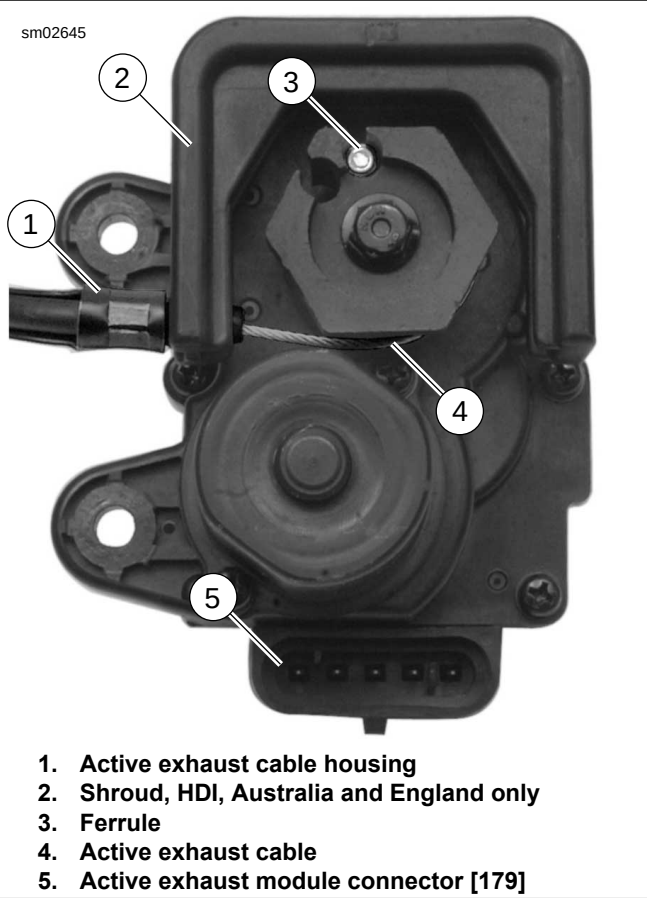
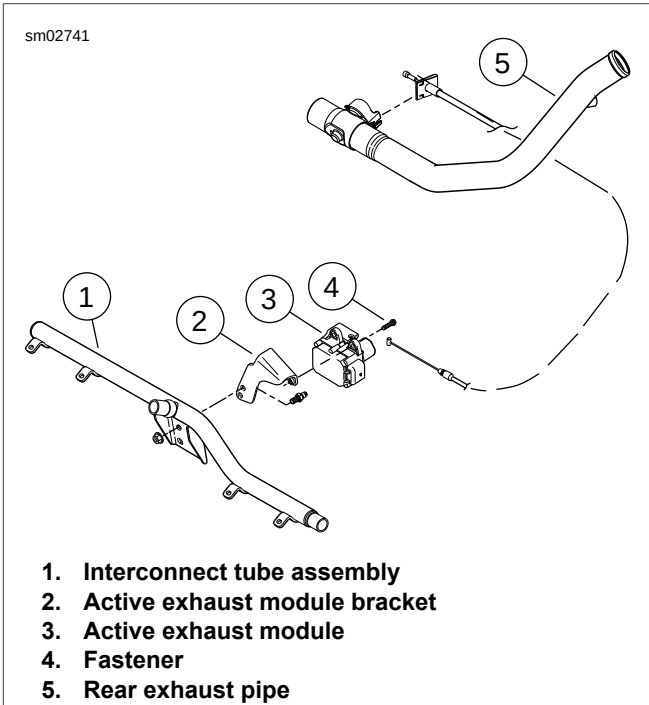

Figure 7-102. Active Exhaust Module
Figure 7-103. Active Exhaust Module Mounting
2. See Figure 7-102. Disconnect active exhaust module connector [179] (5).
3. Remove active exhaust cable housing (1) from notch in shroud (2). Remove ferrule (3) from active exhaust module to free cable (4).
4. See Figure 7-103. Remove module fasteners (4) from active exhaust module bracket (2).
See Figure 7-102. Active exhaust module shroud (2) can be replaced. Replace shroud if active exhaust cable housing (1) is a loose fit in shroud.
1. See Figure 7-103. Install active exhaust module (3) to bracket (2) using fasteners (4). Tighten fasteners to 32-40 in-lbs (3.6-4.5 Nm).
2. See Figure 7-102. Install ferrule (3) into slot shown. Wrap cable around active exhaust module shroud as shown.
3. Clip active exhaust cable housing (1) into shroud (2).
4. Connect active exhaust module connector [179] (5).